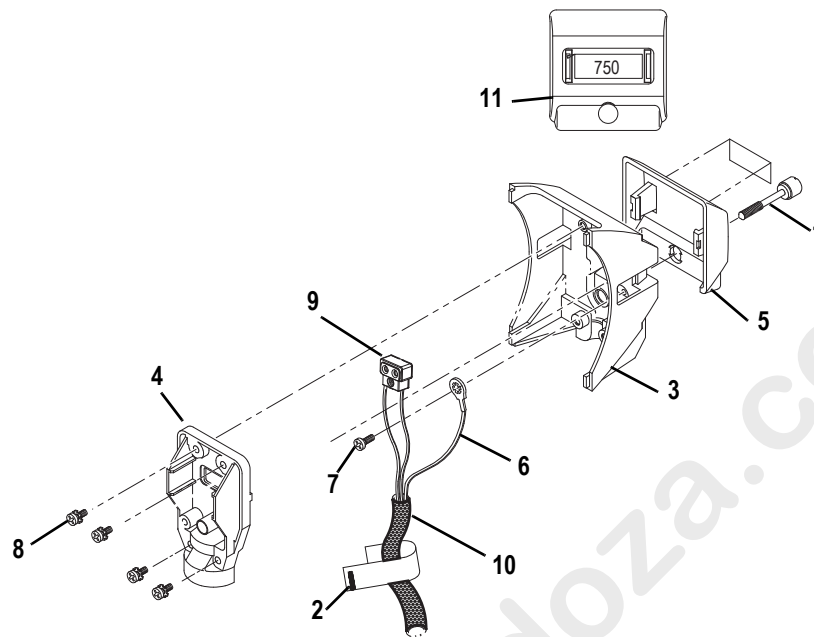
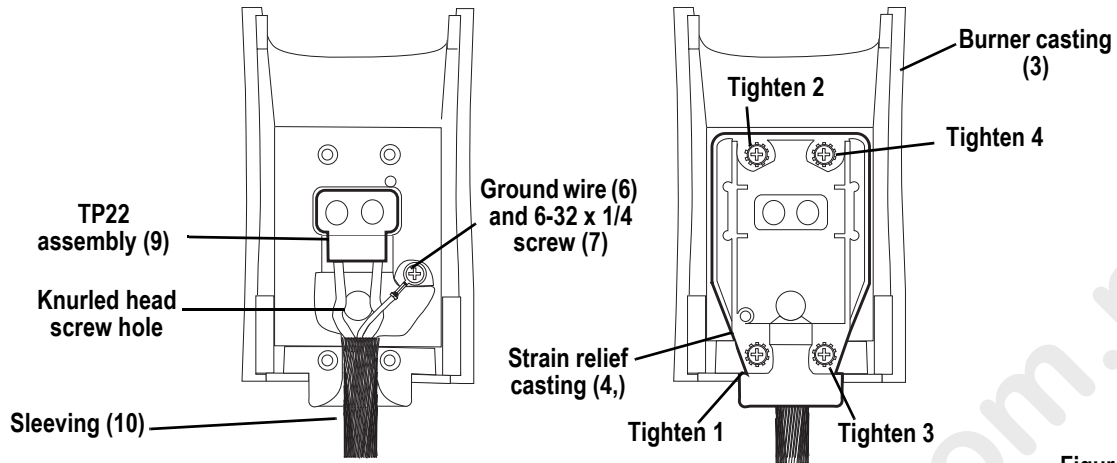

Figure 2
Figure 3
Step 1: Install the ground wire (6) and the TP22 assembly (9) in the sleeving (10). See Figure 3.
Step 2: Snap the focus handle (5) onto the burner (3). See Figure 2.
Step 3: Secure the ground wire lug (6) onto the burner casting (3) using screw (7).
Step 4: Place the TP22 assembly (9) into the burner casting (3). See Figure 3.
Step 5: Insert the screws (8) into the four positions in the strain relief casting (4). See Figure 3.
Step 6: Position the sleeving assembly (10) as shown in Figure 3. Fold the sleeving so it fits cleanly in the slot between the burner and the strain relief.
Step 7: Place the strain relief (4) on the burner casting (3). Loosely attach the screws (8). The TP22 assembly (9) must be centered in the strain relief opening (4). See Figure 3.
Step 8: To guard against stripping the screws, tighten them in the order shown in Figure 3.
Step 9: Make sure the focus handle is secure, then insert the knurled head screw (1) through the handle (5) into the burner casting (3). Tighten securely.